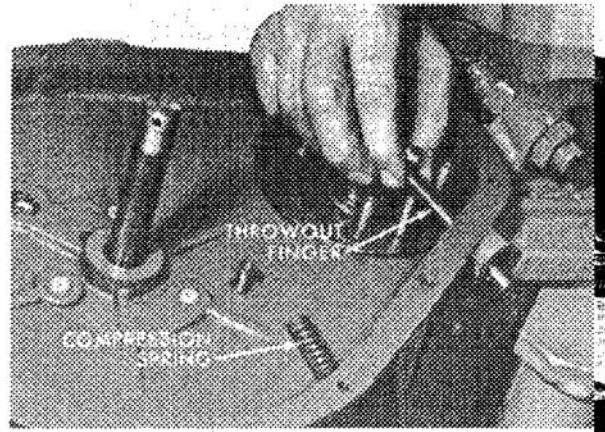

Figure 32
14. Lift out the upper compression spring (Fig. 32). Remove ratchet gear ring from gear case.